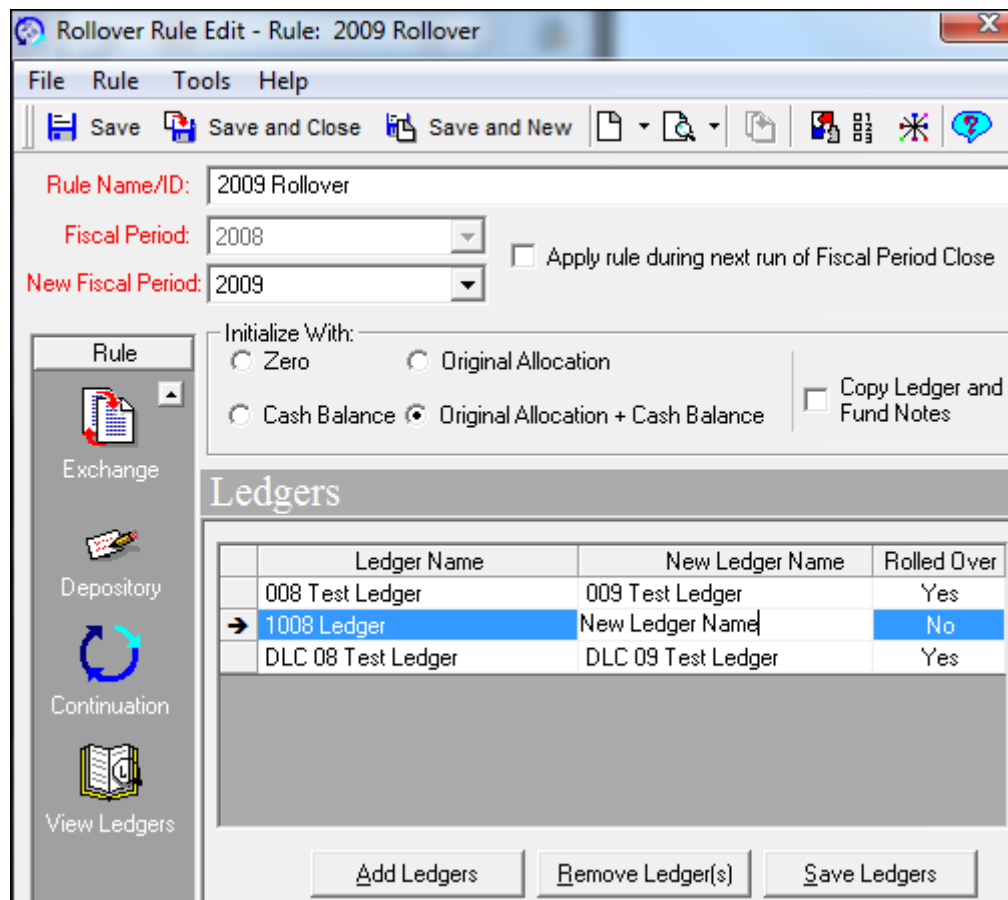

Figure 16-7. The new ledger name is typed into the column
3. Enter the new ledger name to be used for the new fiscal period in the **New Ledger Name** field (see Figure 16-7). Follow the same rules for entering a Ledger Name.